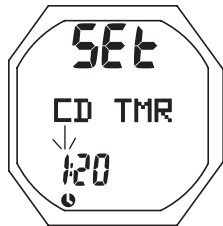

Fig. 128 - SET CDT
**Set CDT**, information includes (Fig. 128):